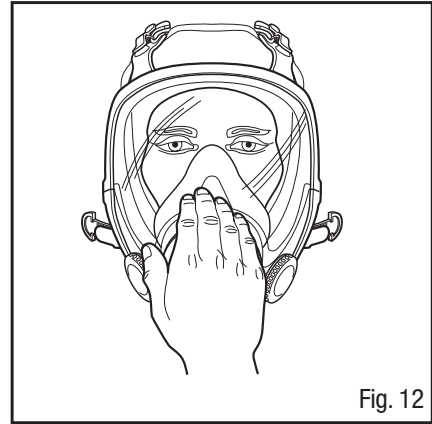

Fig. 12
2. With the palm of your hand covering the exhalation valve cover and center DIN port, exhale gently. If the facepiece bulges slightly and no air leaks are detected between your face and the facepiece, a proper seal has been obtained (Fig. 12).
1. Place the palm of the hand over the breathing tube opening (Fig. 12).